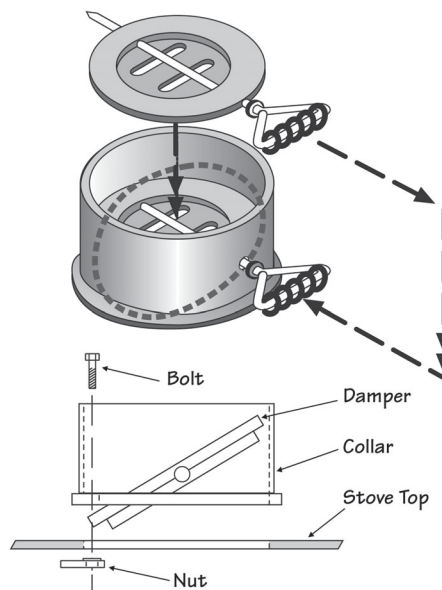

Fig. 5 – Cast Iron Damper
4. Secure the collar to stove with bolts and nuts supplied (figure 5).
5. Install damper on angle into collar as shown in lower illustration (figure 5).